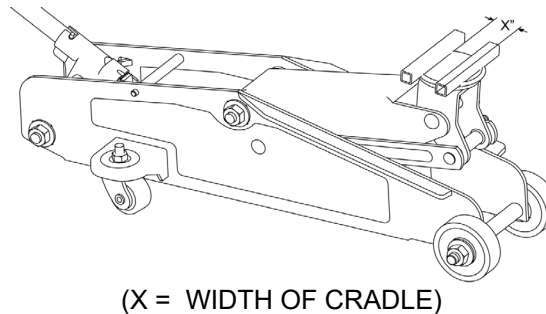

FIGURE 1-9: JACK CRADLE RECOMMENDED MODIFICATION
4. Modify jack saddle of a 3 ton minimum jack by welding as shown in Figure 1-9.
6. Using modified jack saddle as shown in Figure 1-9, center jack saddle in center of cradle on 1 of the floats,